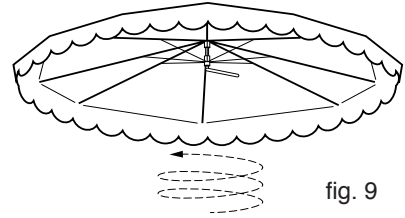

fig. 9
3. With the locking lever in the horizontal position, turning it clockwise will tighten the bolt of the inner stem against the ball joint and secure it in place. Turning the lever counterclockwise will loosen it. (fig. 9)